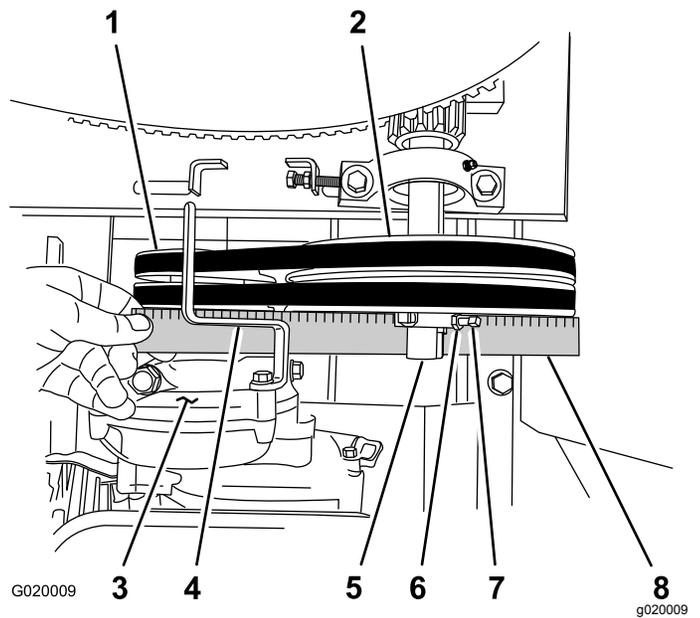

Figure 72
- D. Align a straightedge across the engine pulley and the idler pulley (Figure 72).
- E. If needed, pivot the engine on the engine deck until the engine pulley and the idler pulley are aligned to the straightedge (Figure 72).